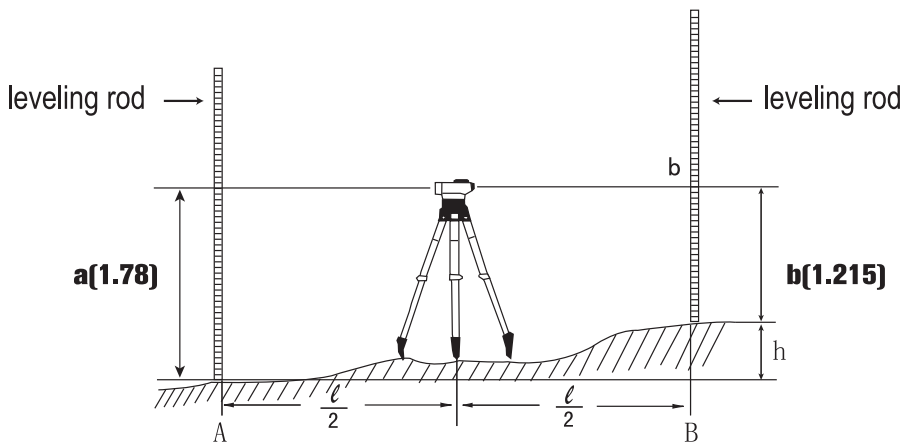

fig.2
1. Place the instrument to the center of point of A and B ( see fig2.)